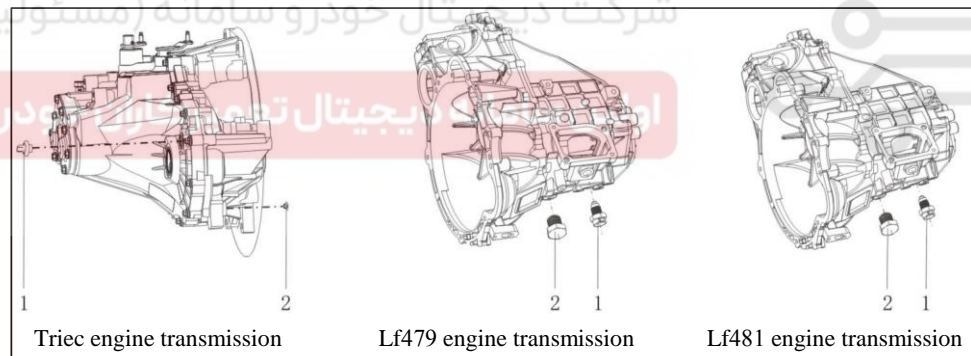

Figure 4-87 Drain Oil from Transmission
- (1) Lift up the front portion of the vehicle so as to get two front wheels away from ground.
- (2) Screw off the fixing bolts from both wheel tires, and then remove both front wheels.
- (3) As shown in Figure 4-87, screw off the transmission oil drain plug, and then discharge all transmission oil.